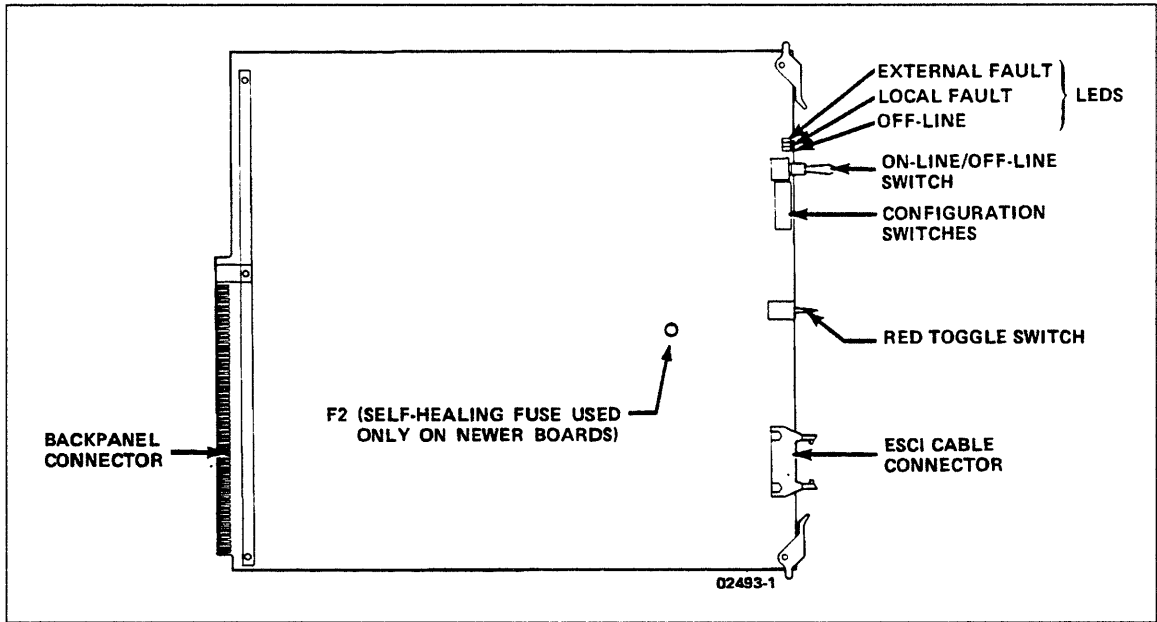

Figure 3-45. ESCI Board
2. Refer to the cabinet configuration form (figure 3-2) and set the switches accordingly. Switches are shown on figure 3-45 and defined in the following table.
2. Unpack ESCI boards and ESCI cable (figures 3-45 and 3-46), equipment label, and FCO label.